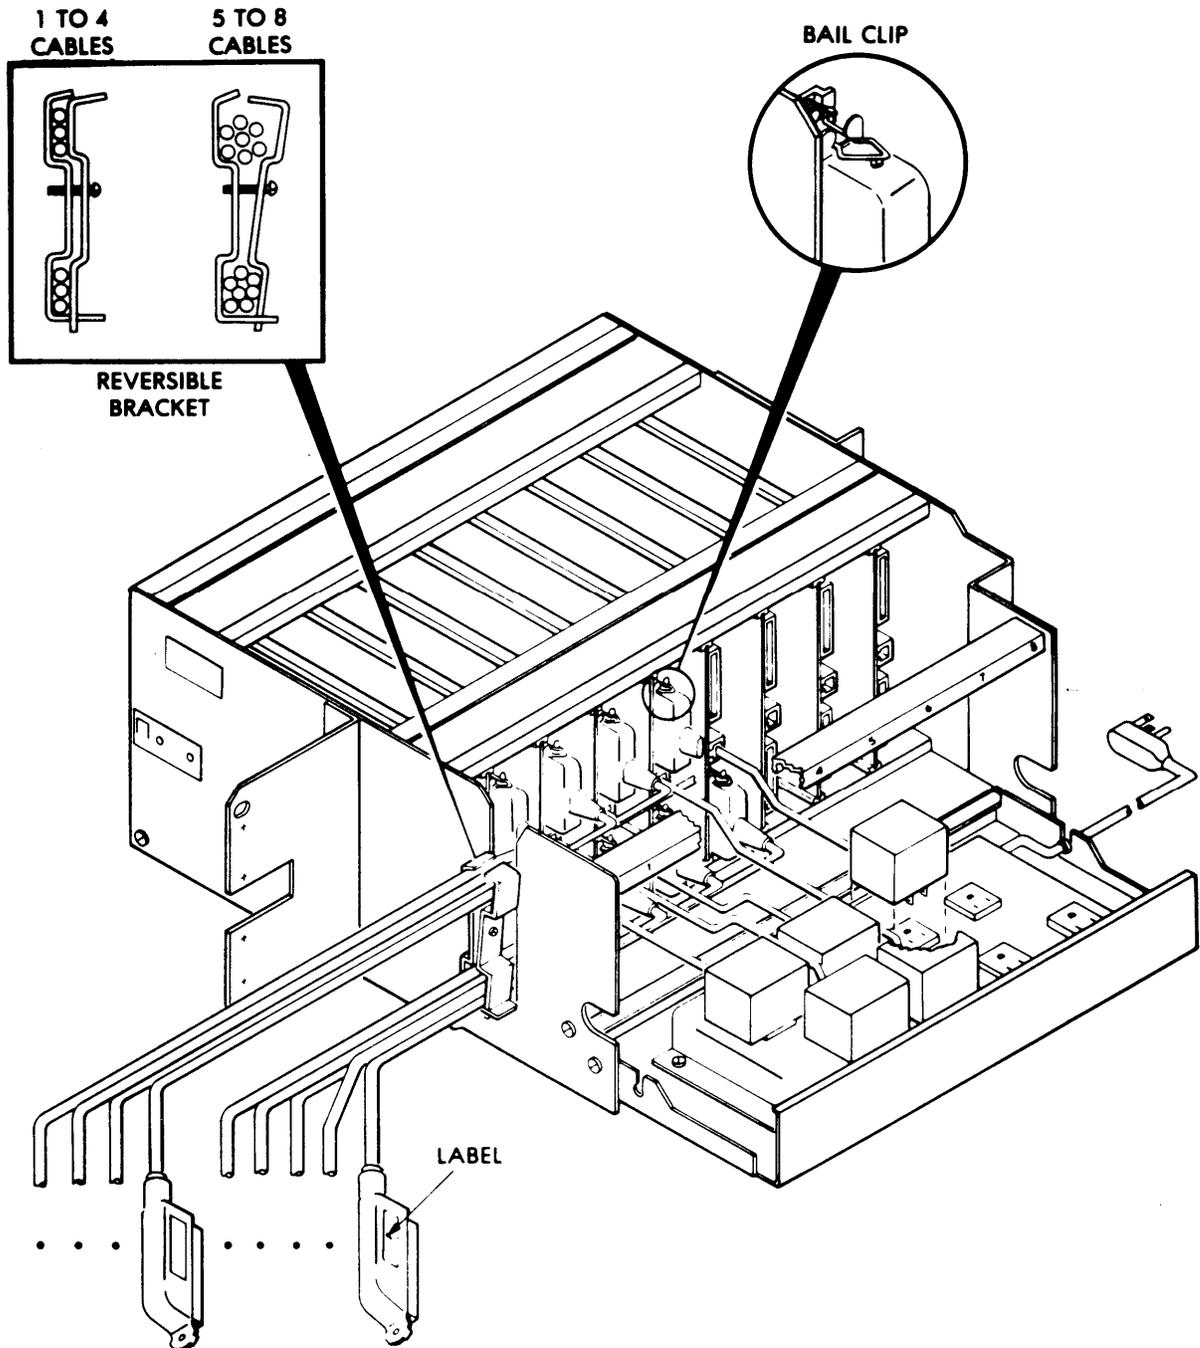

Figure 16. MADU Multiple-Mount Circuit Pack Installation (Rear View)
The following steps refer to Figure 16.
12. *For four or fewer circuit packs:* Turn the reversible bracket sideways and remove it from the "T" lock. Reverse the bracket so the "1 TO 4 CABLES" side faces outward, and replace the bracket in the "T" lock. See the blow-ups of side bracket positions in Figure 16.